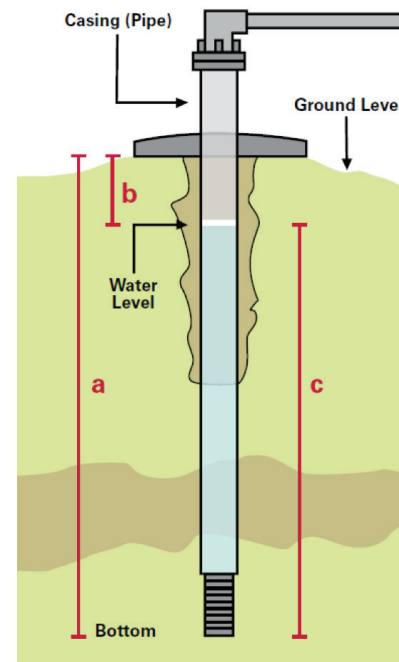

Figure 1. A diagram showing various distances (“a,” “b,” and “c”) to be used to calculate the depth of water in a well.
2. DETERMINE THE DEPTH OF WATER IN YOUR WELL, which is the distance from the bottom of the well to the water level. To find this information, first measure the distance from the ground level to the water level (distance “b” in Figure 1).